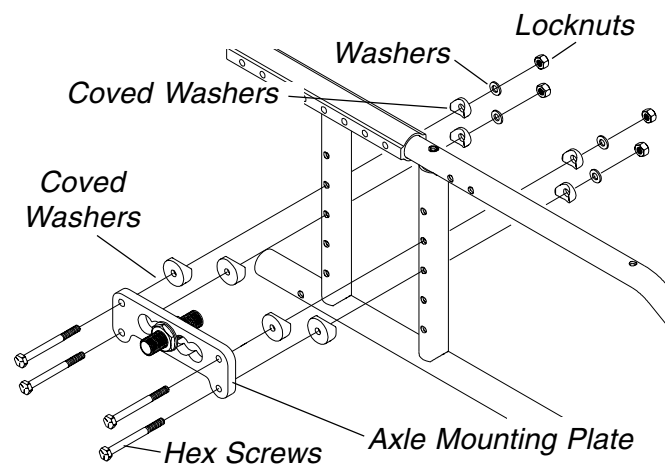

FIGURE 10 - ADJUSTING REAR WHEEL HEIGHT
ADJUSTING REAR WHEEL HEIGHT (FIGURE 10)
5. Resecure the axle mounting plate to the wheelchair frame. Refer to **FIGURE 10** for correct hardware orientation. Torque to 60-inch pounds.